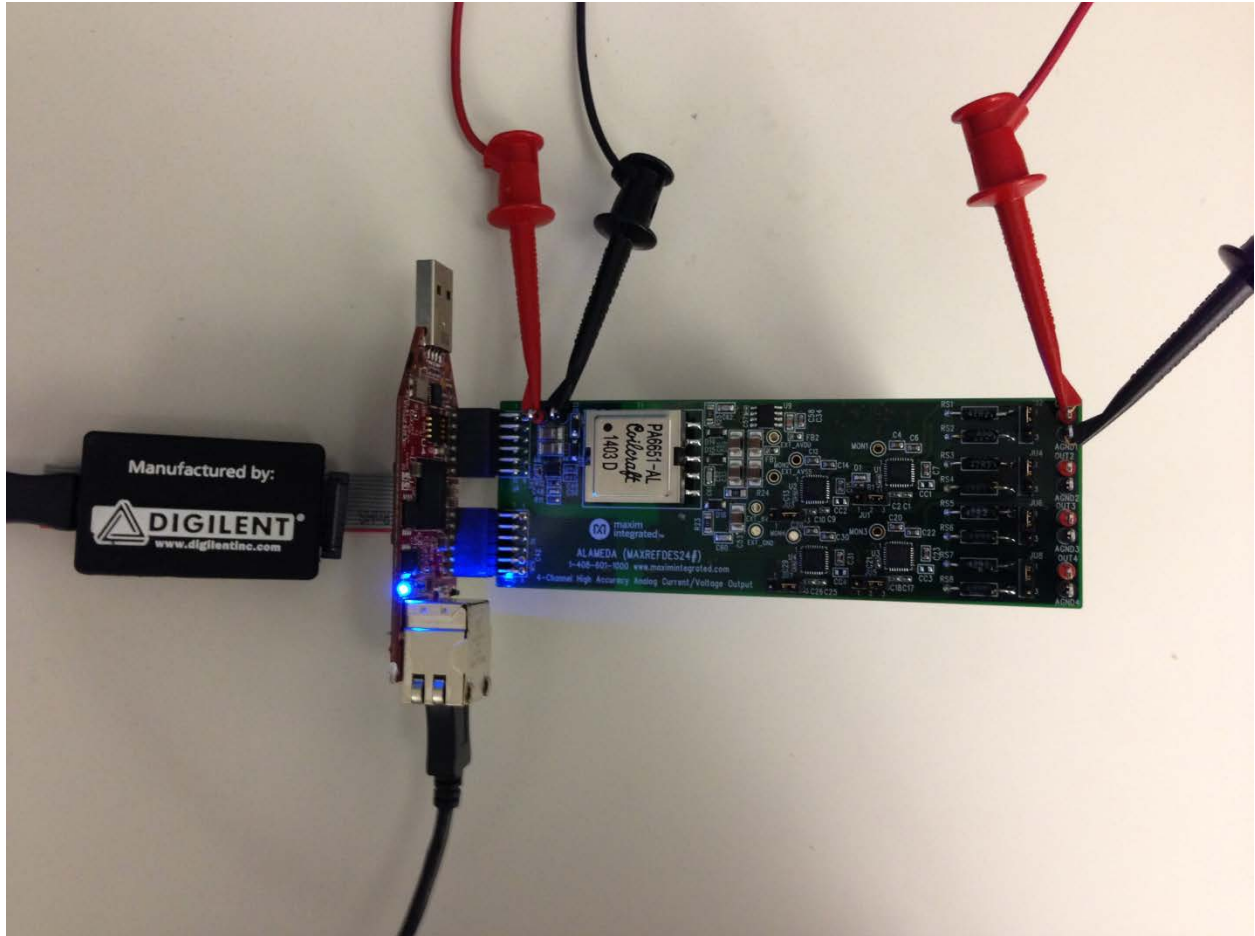
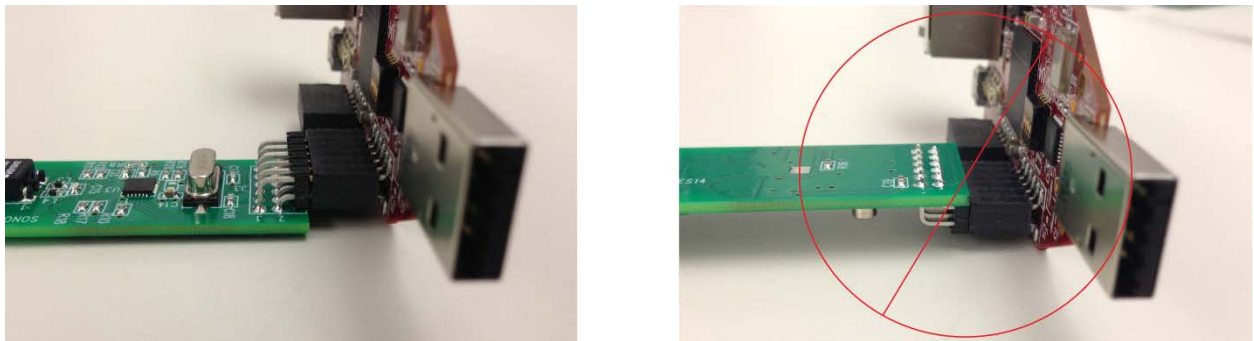

Figure 1. Alameda Board Connected to LX9 Kit
Figure 2. Pmod™ Connector Alignment
- 1) Connect the Alameda board to the J4 and J5 ports of an LX9 MicroBoard as shown in Figure 1. Ensure the connector is aligned as shown in Figure 2. The communication between the Alameda board and the LX9 MicroBoard is through the pins on the J4 connector. The J5 connector is for the board physical support only.
1. Connect the Alameda board to the J4 and J5 ports of an LX9 MicroBoard as shown in Figure 1.